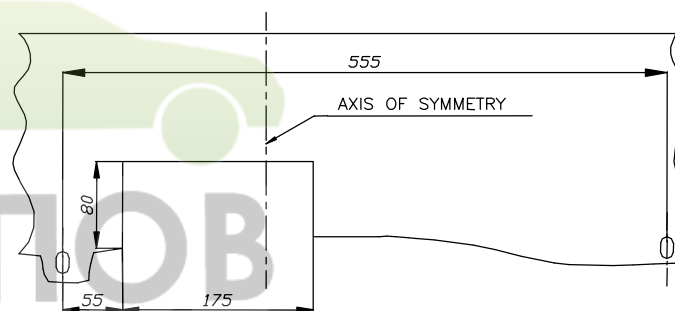

Fig. 2
4. Apply the main bar of the towbar (pos. 1) on the protruding bolt M10 in place of unscrewing reinforcement and fix it loosely.
5. Apply brackets of the towbar (pos. 4 and 5) to chassis into such way so holes (pos. A and B) be covered with holes in the back piece and with holes in the chassis member.
- holes (pos. A) fix with the main bar of the towbar (pos. 1) using bolts M10x40mm (pos. 9),
- holes (pos. B) fix to the chassis member using bolts M10x40mm (pos. 9)
- use jibs with the nuts (pos. 6 and 7), which one ought to put through holes in chassis members.
7. Install the bumper after cut out of its fragment (see fig. 2).